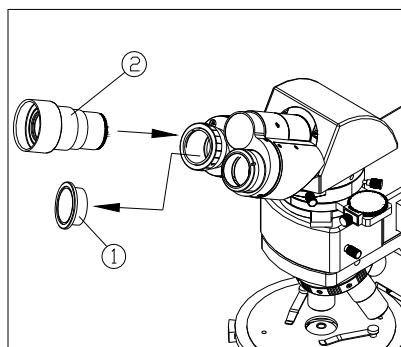

Fig.12
- (1) Take down the cover of eyepiece tube①. (See Fig. 12)
- (2) Insert the eyepiece② into the eyepiece tube to the bottom.